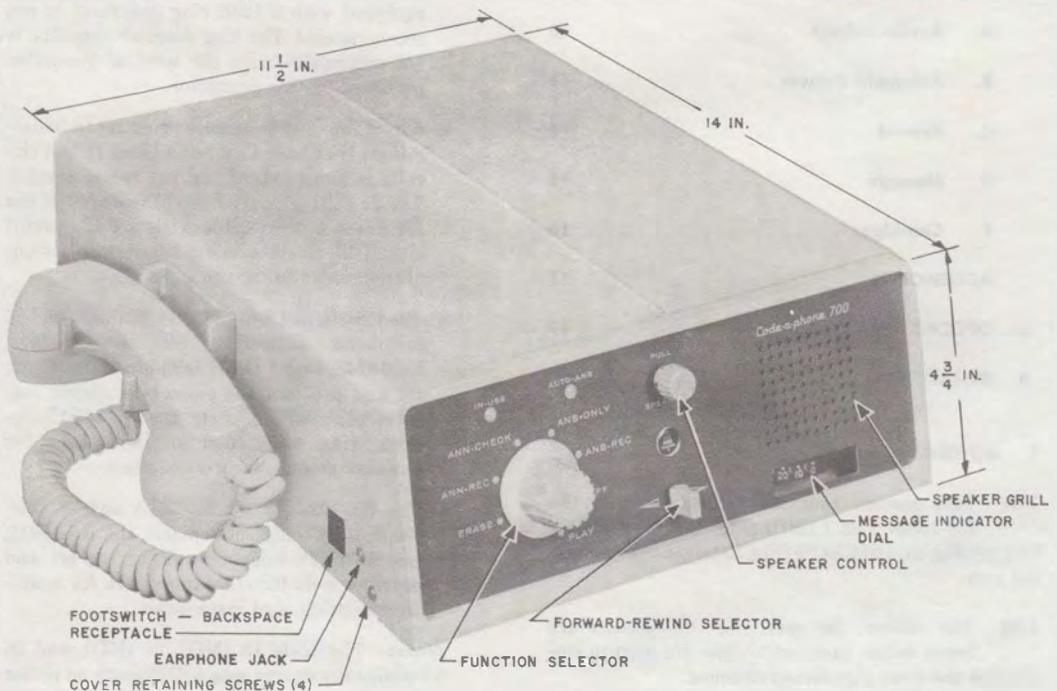
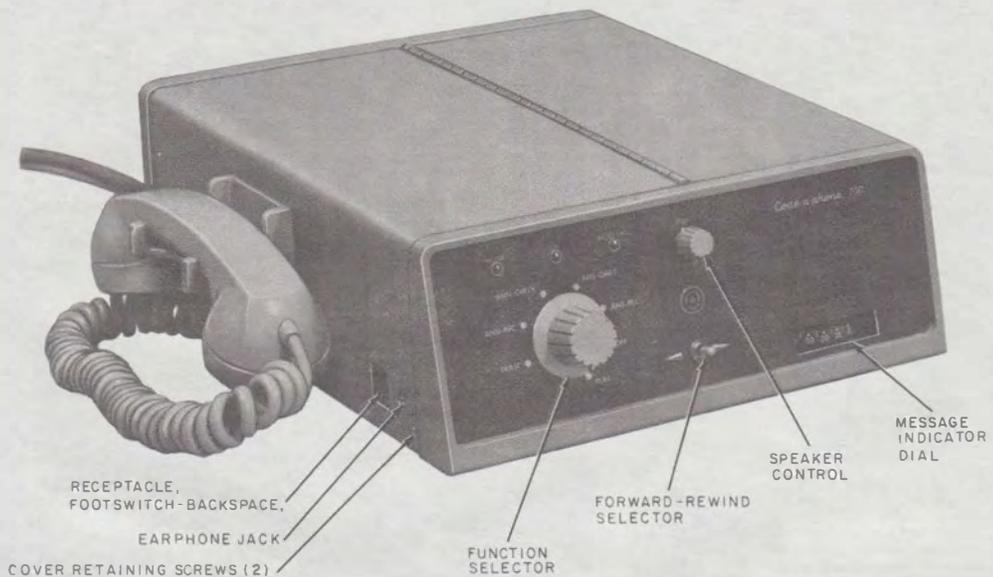
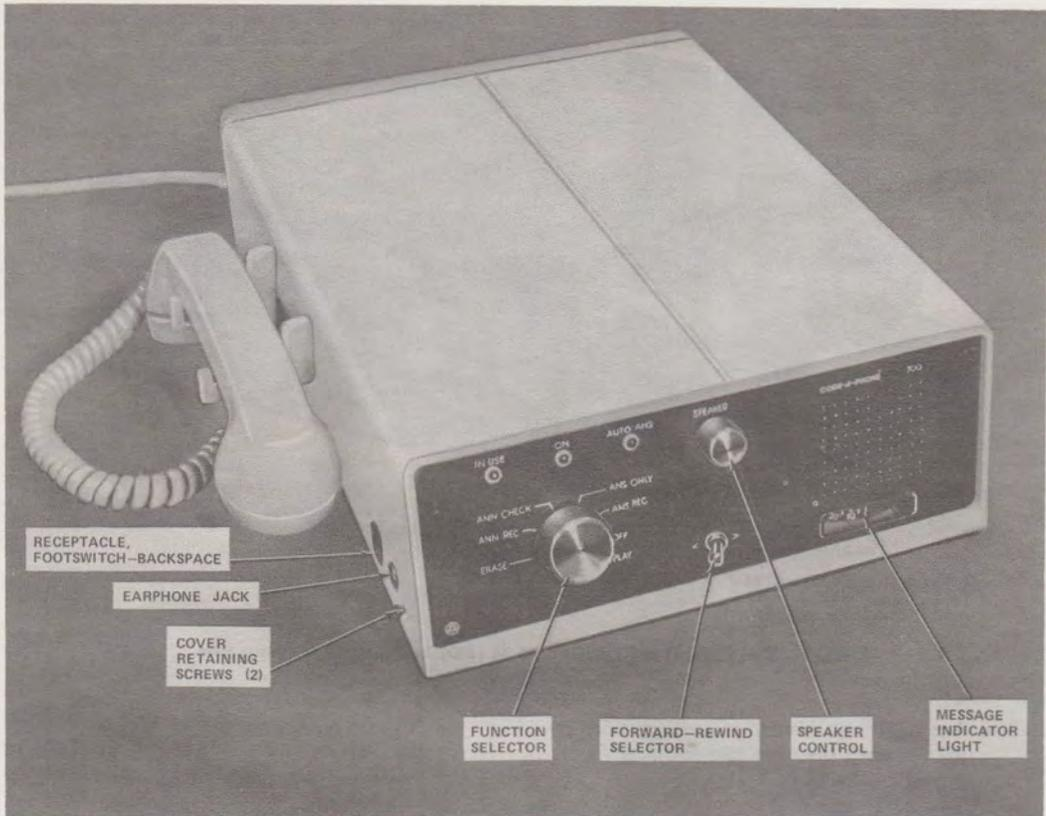

Fig. 1—KS-19245, List 1 (MD) Telephone Answering Set
Fig. 2—KS-19245, Lists 13 (MD) and 24 (MD) Telephone Answering Sets
Fig. 3—KS-19245, List 26 Telephone Answering Set
1.01 This section contains information on the KS-19245, List 1 (MD) (Fig. 1), List 13 (MD), List 24 (Fig. 2), and List 26 (Fig. 3) telephone answering sets.
2.01 The KS-19245, Lists 1 (MD), 13 (MD), and 24 (MD), and 26 telephone answering sets (Fig. 1, 2, and 3) are automatic answering sets for either answer and record, or answer only service.
- The use of the KS-19245, Lists 13 (MD), 24 (MD), and 26 behind a DIMENSION® PRX equipped with a 120B ring generator is not recommended. The ring detector circuitry is not compatible with the level of distortion produced by this generator.
- The KS-19245, Lists 13 (MD), 24 (MD), and 26 telephone answering set replaces the KS-19245, List 1 (MD) telephone answering set and provides the same operational features plus calling party control (CPC) options, ring delay, and an input jack for modular mounting cord installations.
- The KS-19245, Lists 24 (MD) and 26 telephone answering set replaces the KS-19245, List 13 (MD) telephone answering set and provides a six terminal input jack for modular mounting cord installation.
**Note:** The Lists 13 (MD), 24 (MD), and 26 telephone answering sets will operate on either
- Calling party control options provide selection of interrupt time from 0.5 to 450 milliseconds [Lists 13 (MD), 24 (MD), and 26 telephone answering sets only].
- Ring delay. Answer on first ring or after approximately 12 seconds of ringing [Lists 13 (MD), 24 (MD), and 26 telephone answering sets only].
- Modular connections [Lists 13 (MD), 24 (MD), and 26 telephone answering sets only].
- Housed in a metal case. The cover has a light olive gray textured finish and the front panel has a blue-gray enamel finish for the Lists 1 (MD), 13 (MD), and 24 (MD). The cover is ivory and the front panel is dark brown for the List 26 telephone answering set. Dimensions of the Lists 1 (MD), 13 (MD), 24 (MD), and 26 telephone answering sets are shown on Fig. 1. Weight of List 1 (MD) telephone set is 31 pounds and of Lists 13 (MD), 24 (MD), and 26 telephone answering sets is 24 pounds.